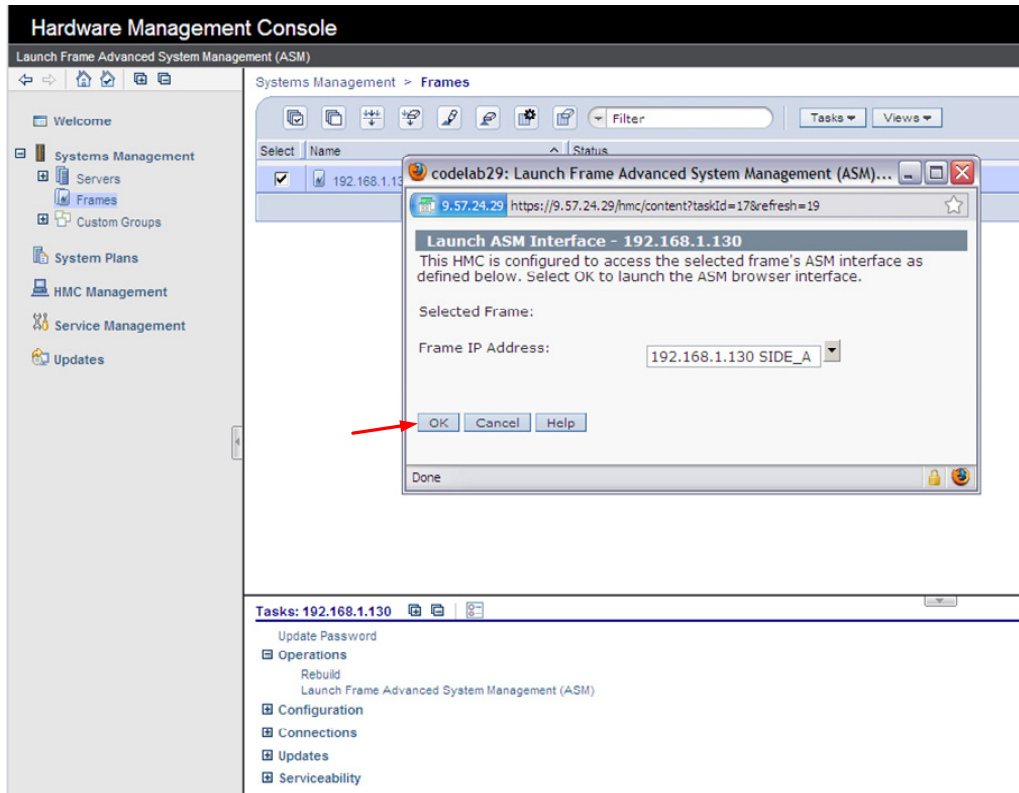

Figure 12 Select BPC FSP SIDE_A
- From the Launch ASM Interface window, select **SIDE_A** or **SIDE_B** (whichever the instructions call for) from the 'Frame IP Address:' pull-down arrow menu, then click the **OK** button (see Figure 12 which shows the SIDE_A BPC FSP selected)